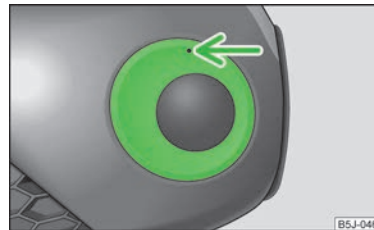

Fig. 148
- » Guide the wire clamp » Fig. 148 into the opening above the fog light » page 156, *Vehicle tool kit* and remove the cover.